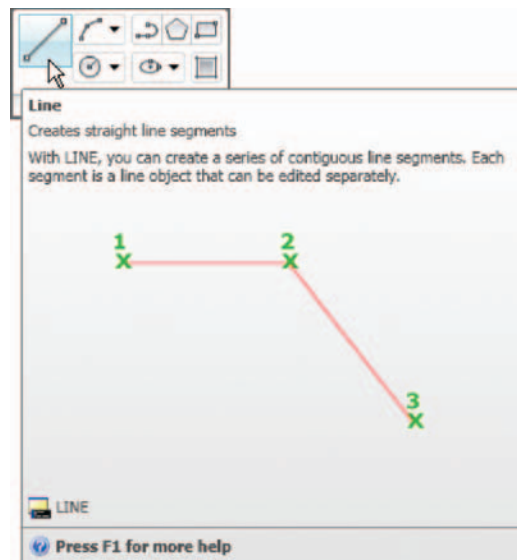

Fig. 1.7 The descriptive tooltip appearing with a *click* on the **Line** tool icon in the **Home/Draw** panel
- **Panels**: each shows tools appropriate to the panel. Taking the **Home/Draw** panel as an example, Fig. 1.7 shows that a *click* on one of the tool icons in the panel brings a tooltip on screen showing details of how the